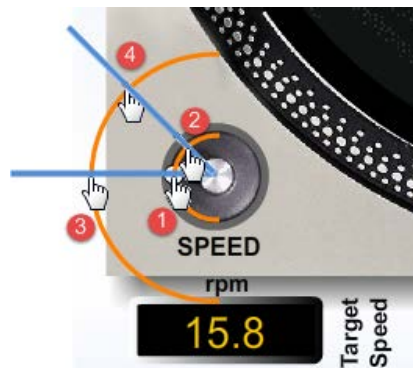

Figure 2: "Chopsticks" Tool
- Remember that when adjusting the speed or radius knobs you need to click and drag away from the knob to make more precise adjustments as illustrated in Figure 2.